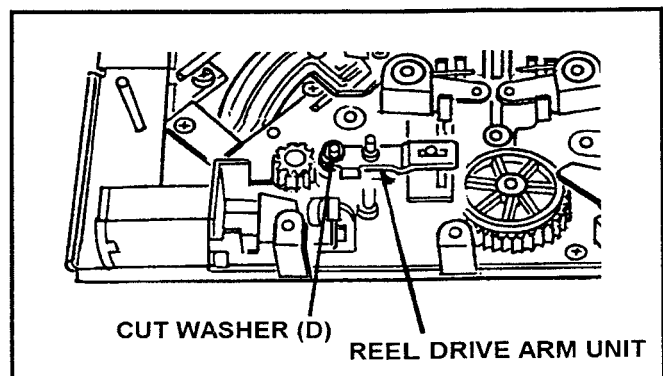

Fig. 6-22-3 Removal of Reel Drive Arm Unit
3. Remove the L-M Release Angle Unit. (Refer to item 6-21).
4. Remove the Reel Drive Sensor P.C.Board (Refer to item 6-16).
5. Remove the Cut Washer (A) and remove the Reel Drive Cam Gear.
6. Remove the Cut Washer (B) and remove the MIC Drive Arm Unit.
7. Remove the Cut Washer (C) and remove the MIC Geneva Gear.
8. Remove the Cut Washer (D) and remove the Reel Drive Arm Unit as shown in Figure 6-22-3.
9. Remove the Supply and Take Up Reel Rotor Unit (Refer to item 6-3-1).
10. Remove the 2 Cut Washers (E) and remove the Supply and Take Up Base Drive Arm Unit.
11. Remove the 2 Cut Washers (F) and remove the Slide Rod Unit.